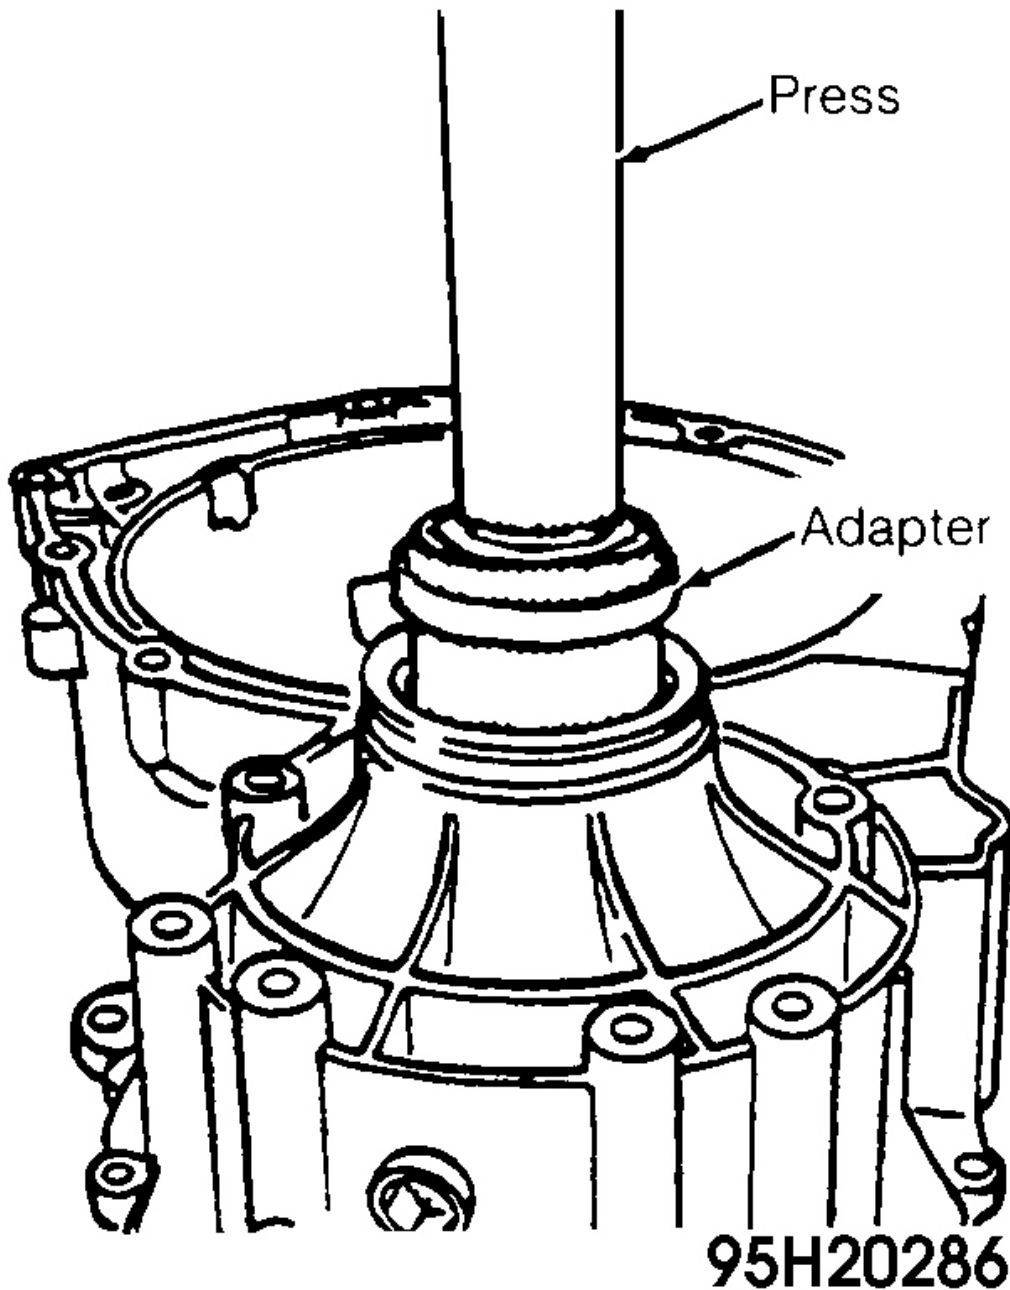
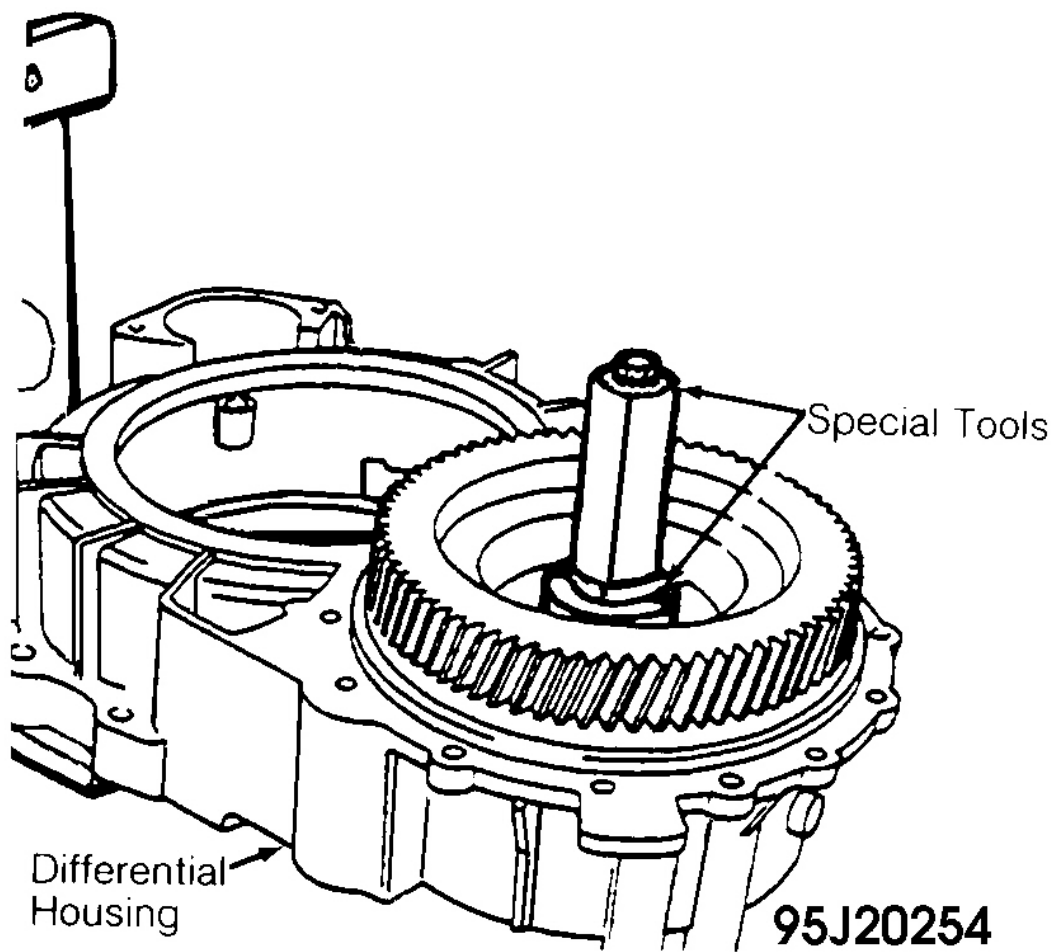

Fig. 58: Removing Differential Shim
Fig. 59: Differential End Play Setup
1. Using press and adapter, press differential bearing race and shim from torque converter housing. See **Fig. 33** and **Fig. 58** . Reinstall differential bearing race or NEW race, as required, without shim, using press and adapters. Oil bearings and place differential assembly inside transaxle with Special Tool (VW 521/4 and VW 521/8). See **Fig. 59** .